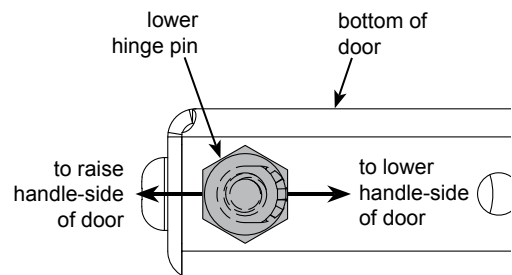

Figure 5A
3. With other hand, push-down on the quick-release hinge lever until the upper hinge pin clears the upper hinge pin hole. **Figure 5A.**
If the door appears to be misaligned, a slight adjustment can be made to the bottom hinge-side of the door. **Figure 5A.**